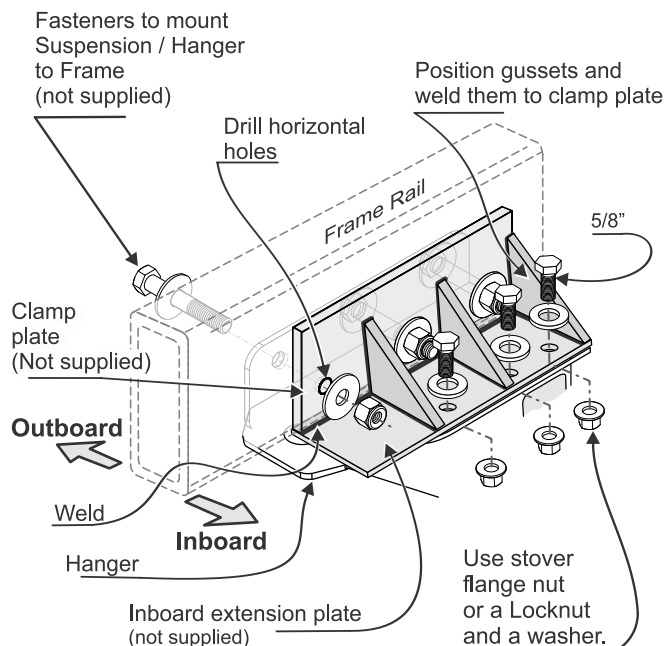

Fig. 3 : Reinforcing frame
5. Bolt hanger side plate: ⁽³⁾⁽⁴⁾ (fig. 3): Use holes in the hanger side plate as a template (3 holes). Drill horizontal holes to the side of frame at each side of trailer. Use 5/8" UNC (grade 5 minimum) bolts, lock-nuts, and washers to mount hangers to frame (fasteners are not included). Torque mounting bolts to 165-175 ft.lbs (224-237 N.m).
6.a) Bolt hanger top plate to frame⁽³⁾: Hanger top plate must be in full contact with the frame so that it can be bolted to frame. Use holes in the hanger top plate as a template and drill vertical holes. In case frame is not wide enough, hanger top plate can be bolted to crossmembers of frame instead (as long as those crossmembers are strong enough). If crossmembers exist but there is a gap between bottom surface of crossmembers and top of hanger then steel spacers (plates) should be used to fill up the gap. Drill common holes to bolt hanger to crossmembers. Use 5/8" UNC (grade 5 minimum) bolts and washers to mount hanger top plate to frame (fasteners are not included). Make sure bolts are long enough the entire length of nuts but they are not too long to interfere with other parts of suspension in the hanger. If trailer does not have crossmembers (but frame main beam itself is sufficiently strong to overcome torsion of frame) then fabricate an inboard extension and attach it to the frame. Reinforce it by gussets as necessary (fig. 3) to make it rigid.
(3) Welding the hanger is optional (instead of bolting it), but be aware that all paint around welding edges need to be ground off prior to welding. Protect Aeon® rubber spring from extreme heat generated during welding.
(4) When bolting the frame be aware that hollow (tubular) sections of frame may not be sufficiently strong to withstand compression of bolted joints and therefore may collapse unless they are reinforced; consider fabricating a bracket similar to the one shown in fig 3 which has a clamp plate to go between the nut/head of bolt and tube. Such bracket must be rigid enough to allow you to apply a full torque to bolts.